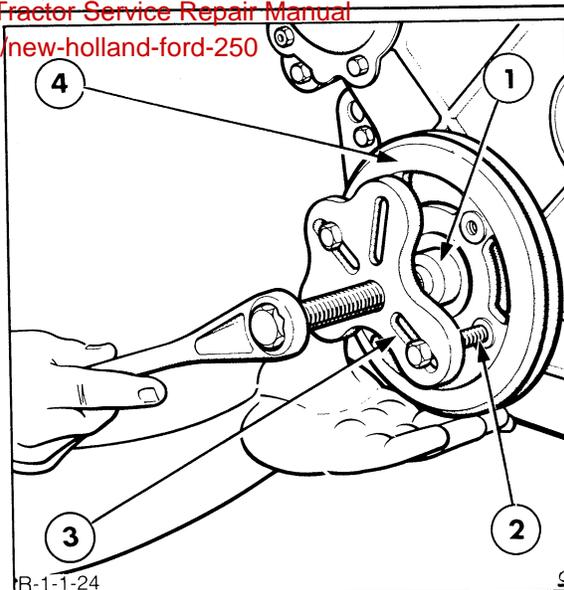

FIGURE 1-25
3. Using puller No. FNH09539 (518) and shaft protector No. FNH09212 (625-A), remove the crankshaft pulley, Figure 1-25.